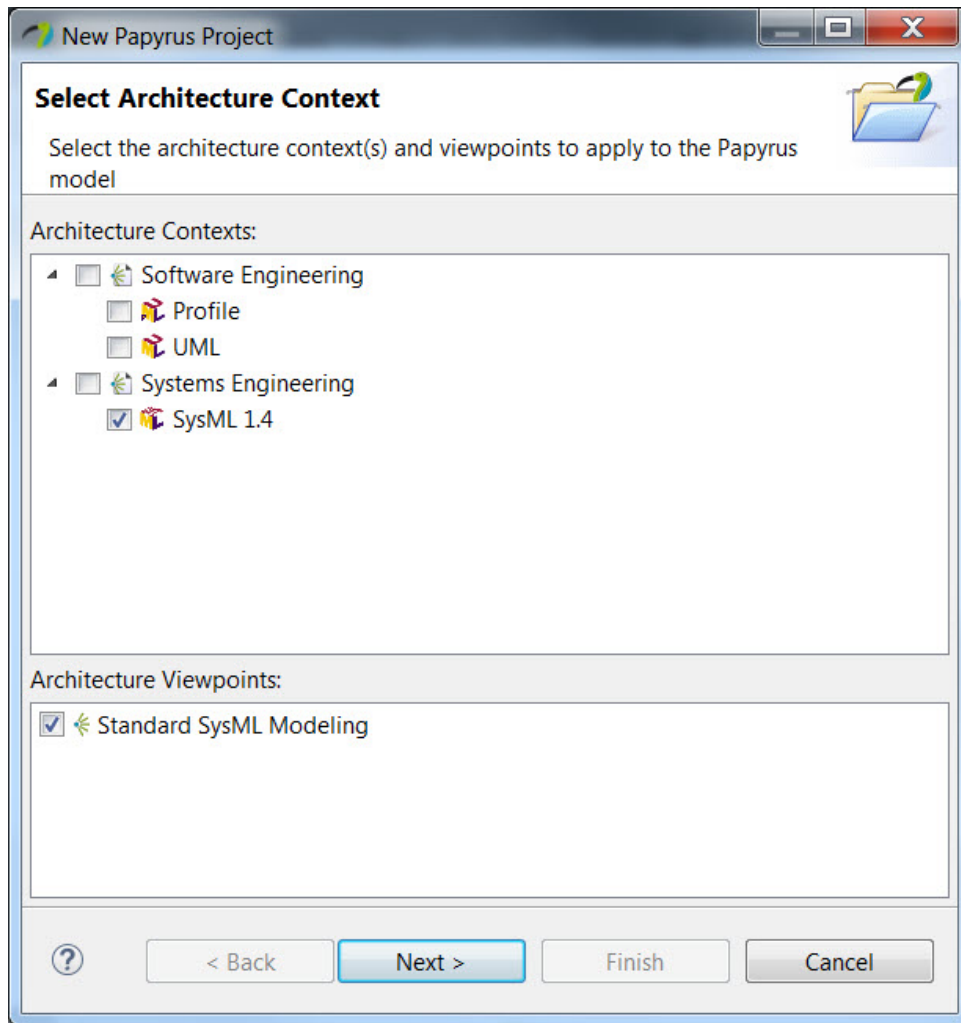
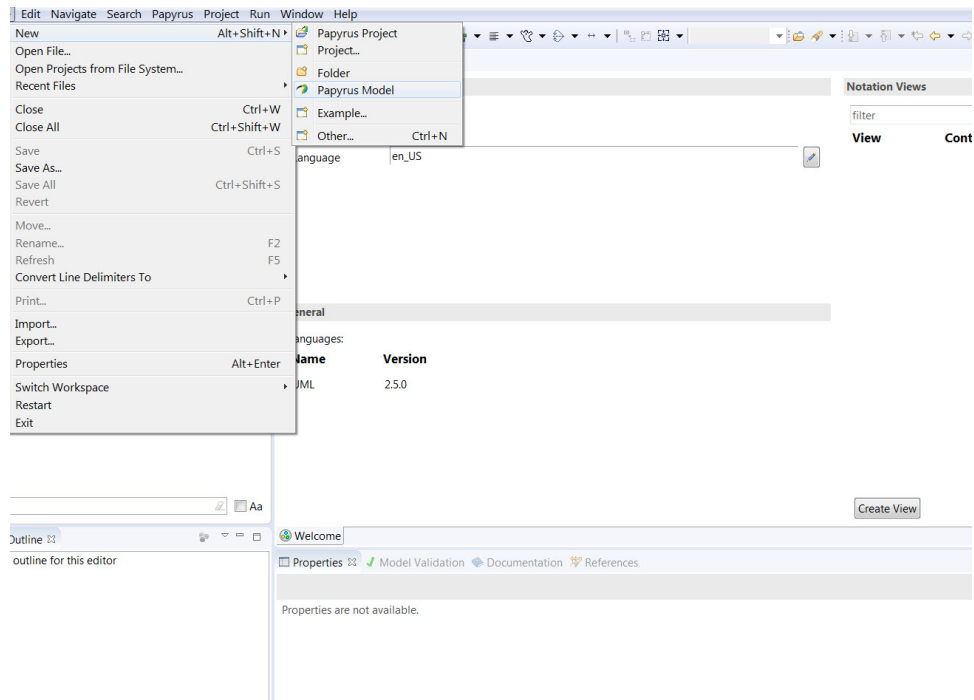

Figure 2: Select Architecture Context
Figure 4: Create New Model
2. The *Select Architecture Context* dialog will then appear. Ensure that the *SysML 1.4* checkbox is selected and then select **Next** (see figure 2).
4. Now we will create our model for the vehicle climate control system problem space. Create a new *Papyrus* model by selecting **File > New > Papyrus Model** (see figure 4). Ensure that the *SysML 1.4* checkbox is selected when the *Select Architecture Context* dialog appears and then select **Next** (see figure 2).